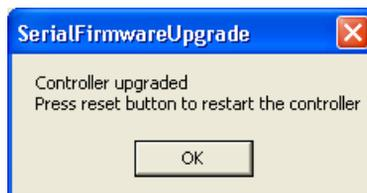

Figure 44. The Serial Firmware Upgrade window.
- Select Firmware version1 from the drop-down menu and click **Upgrade**. File transmission starts to the controller. This operation may takes a few minutes. A confirmation window opens when the controller is upgraded, see Figure 44.